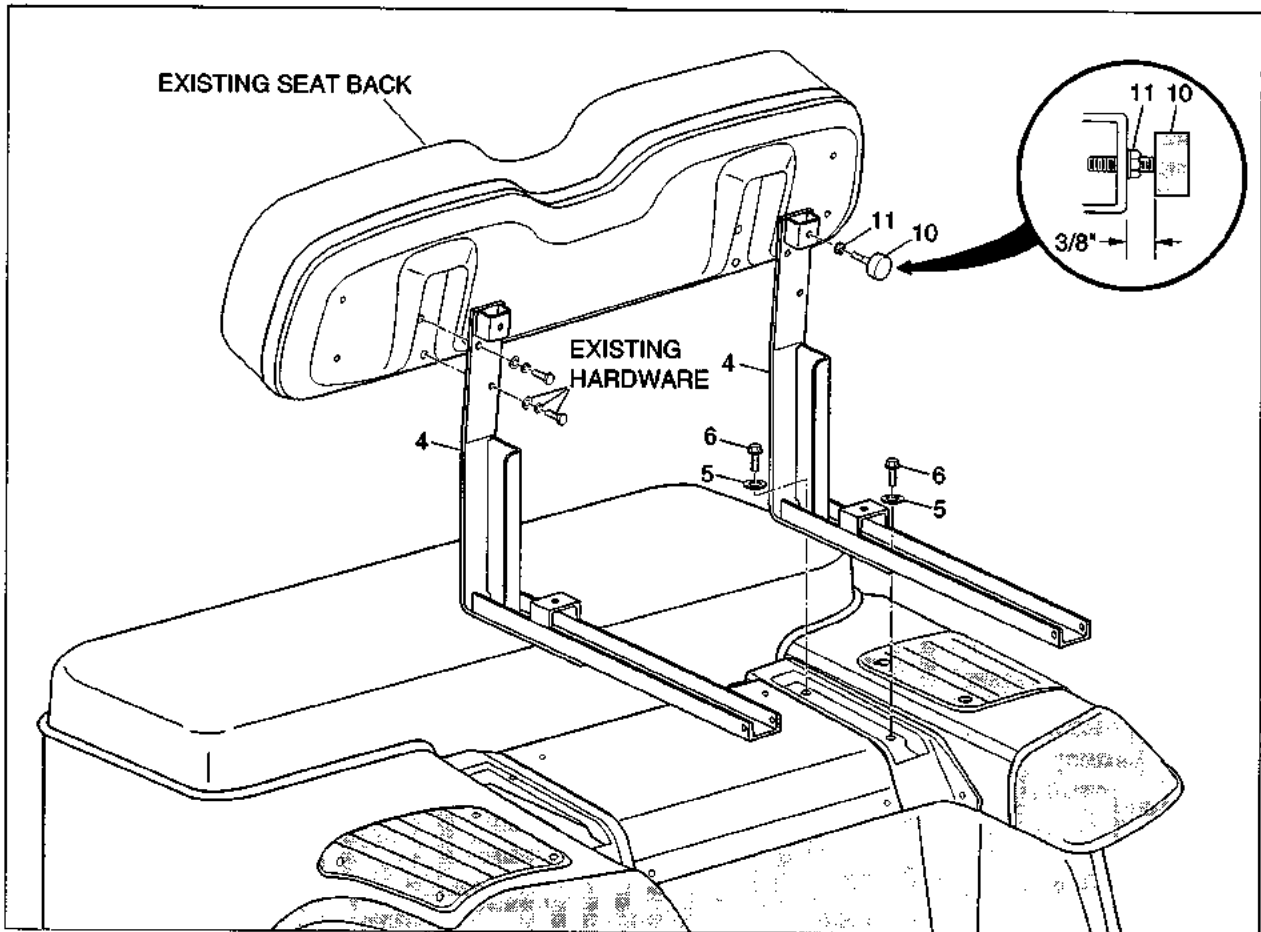

Fig. 3
B. INSTALLING SEAT BACK SUPPORT (Refer to Fig. 3)
- Install the new seat back supports (item 4) to the frame using washers (item 5) and screws (item 6). Finger tighten hardware to allow for adjustment.
- Install rubber bumpers (item 10) on vertical part of seat support bracket using one lock nut (item 11) (per bumper) as shown in Fig. 3. Tighten to dimension specified.